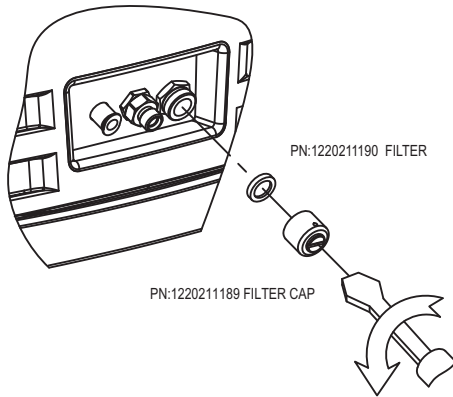

Figure 2-3 How to change filter
- ◆ **REF/FLT port:** ADT761-BP (port is blocked). ADT761-LLP/D (port is the reference or low port. Leave open to measure in gauge mode). All other ADT761 models (port contains a filter for internal pump. The filter should be changed when dirty, as shown in figure 2-3).